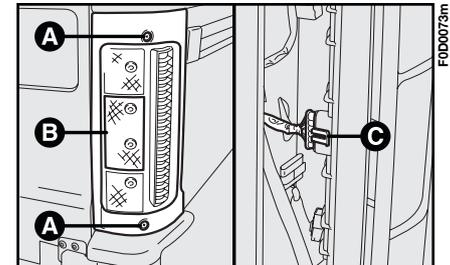

fig. 20
- 1) loosen the two screws **A**-fig. 20 with a screwdriver